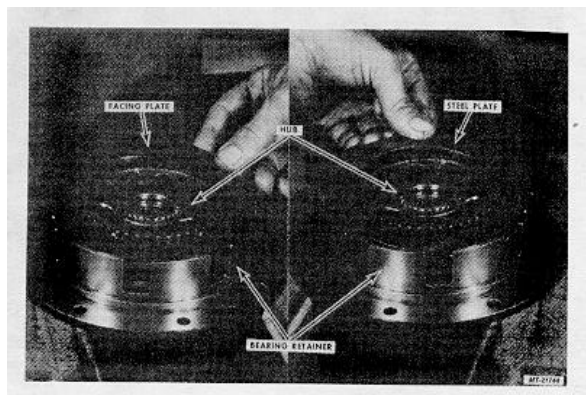

Fig. 52
15. Place one Facing Plate down onto the Backing Plate, then a Steel Plate on the Facing Plate. Alternate Facing Plates and Steel Plates until a total of six (6) Facing Plates and five (5) Steel Plates have been placed on the stack, Fig. 52.